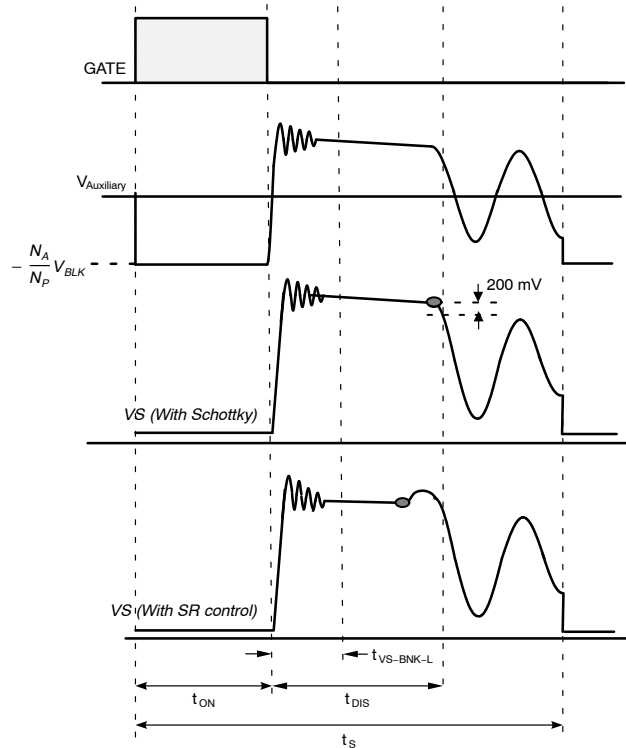

Figure 26. VS sampling with Diode or Synchronous Rectifier
VS voltage which is reflected auxiliary winding and proportional to output voltage. Therefore, It is possible to regulate output voltage by sensing VS voltage. Figure 26 shown VS sampling waveform with secondary rectifier that using Schottky diode or Synchronous Rectifier (SR).
In order to regulate output voltage in accurately range, FAN105A build-in VS sampling methodology for signal like Figure 26 showed, FAN105A samples and hold VS voltage as EAV at timing like gray point showed. Base on EAV level to regulate Pulse width to achieve estimation output voltage.
A leading edge blanking time ( $t_{VS-BNK-H/L}$ ) start from primary switch turned off, that is caused by the resonance of leakage inductance and parasitic capacitance at transformer. In order to avoid VS sampling procedure get impacted by that ringing, the oscillation should be settle before settle down before  $t_{VS-BNK-L}$  ended as Figure 26 showed.  $t_{DIS}$  is secondary rectifier current discharging time which recommend better design is longer than  $t_{VS-BNK-H}$  during minimum on time controlling.  $t_{DIS}$  is predictable by following formula: